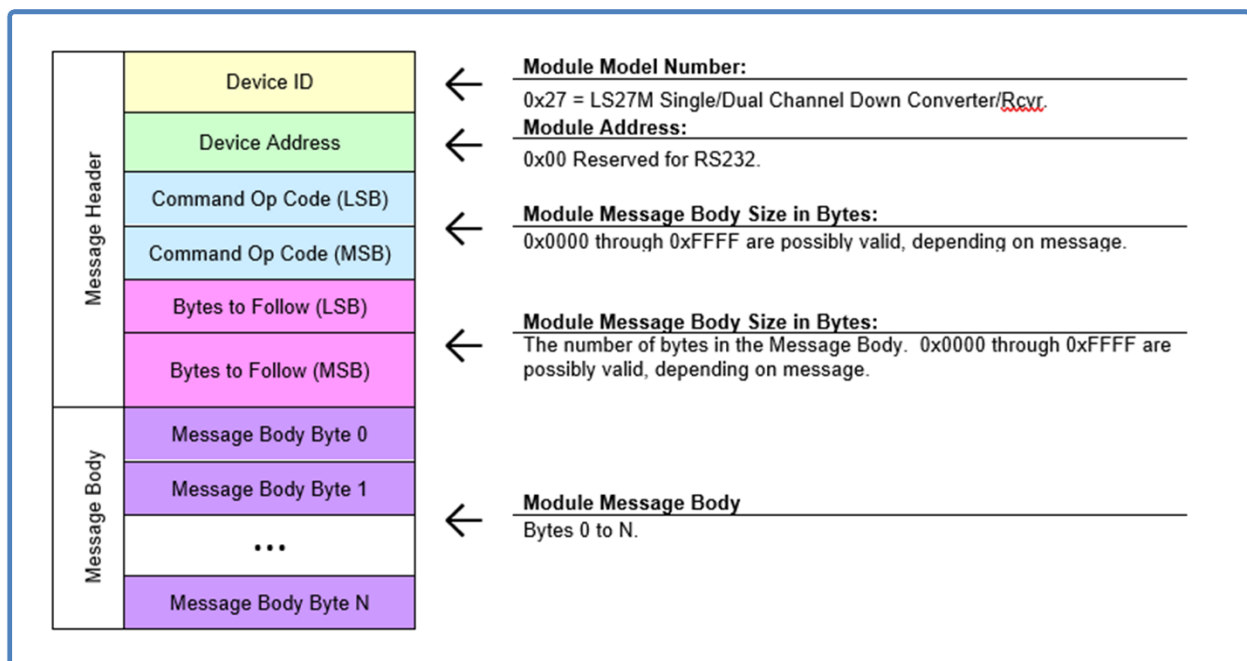

Figure 4-1 Message Header – LS-27 Protocol
All host messages require a message header of six (6) bytes. If the host command requires additional data be transferred to the host, the data will immediately follow the command header. Figure 4-1 contains a diagram of the message header for the interface protocol.